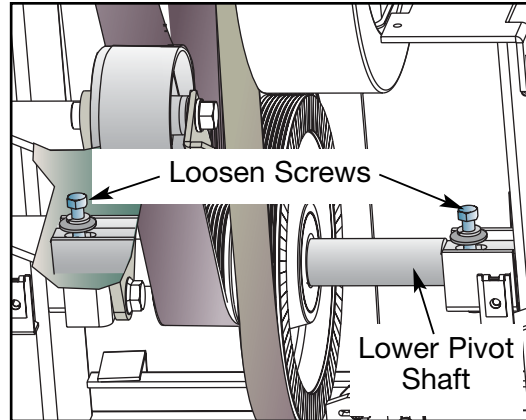

Figure 15
- A. Using a 7/16" socket wrench, loosen the two screws on the lower pivot shaft until the screws are raised 1/2" (1.25 cm) above the shaft. See Figure 15. **NOTE:** The drive belt tension is now released.